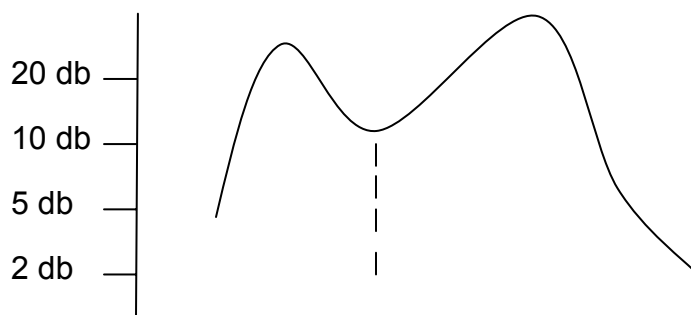

Fig. 7-18
16. Signature Test :- (M curve test) See Fig. 7-18 for Curve